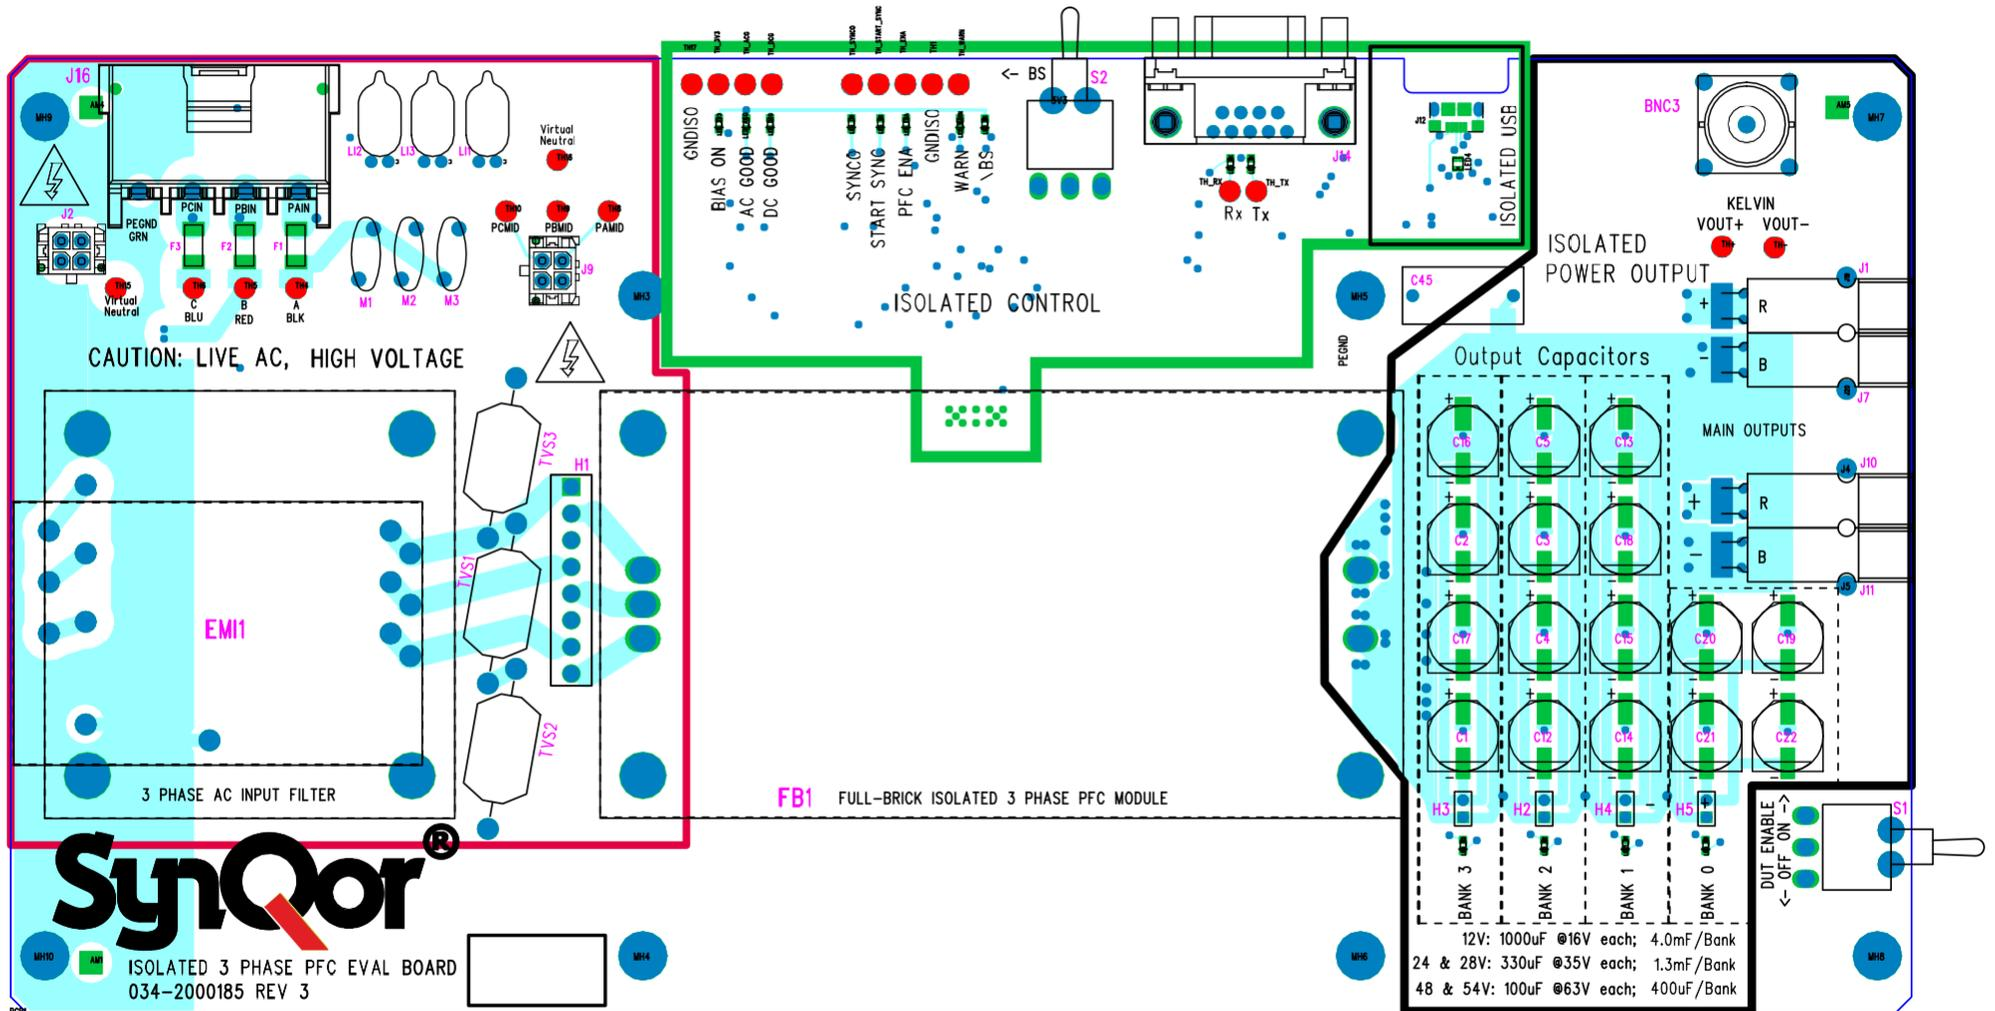

Figure 3. Military 3-Phase Isolated PFC evaluation board component placement (Region 1: Red, Region 2: Green, Region 3: Black).
**CAUTION:** All the signals in Region 1 (Section 4 Red) have LIVE input voltages and are referenced to the AC Input voltage. All the test points in region 1 are in red indicating that differential scope probes must be used when probing these signals, see Figure 3.
**Note:** Test points are red in figure 3 but black on physical unit.